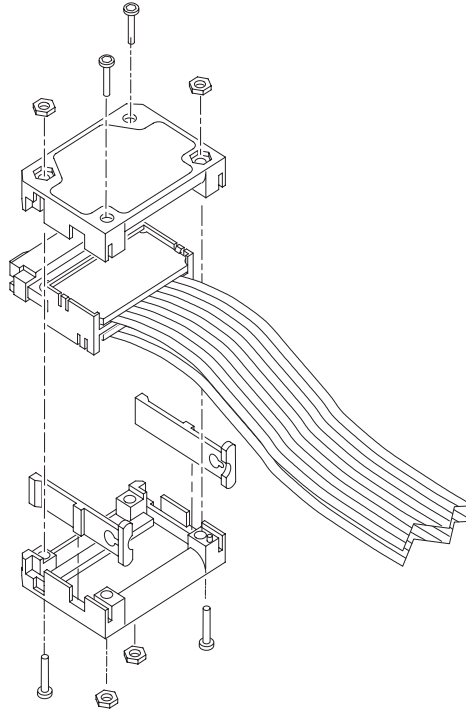

Figure 21: Reattaching the latch releases and case halves
8. Position a latch release on each side of the case half. See Figure 21.
9. Align the pin 1 case half with the pin 1 side of the connector, attach the case halves, and reconnect the screws as shown in Figure 21.